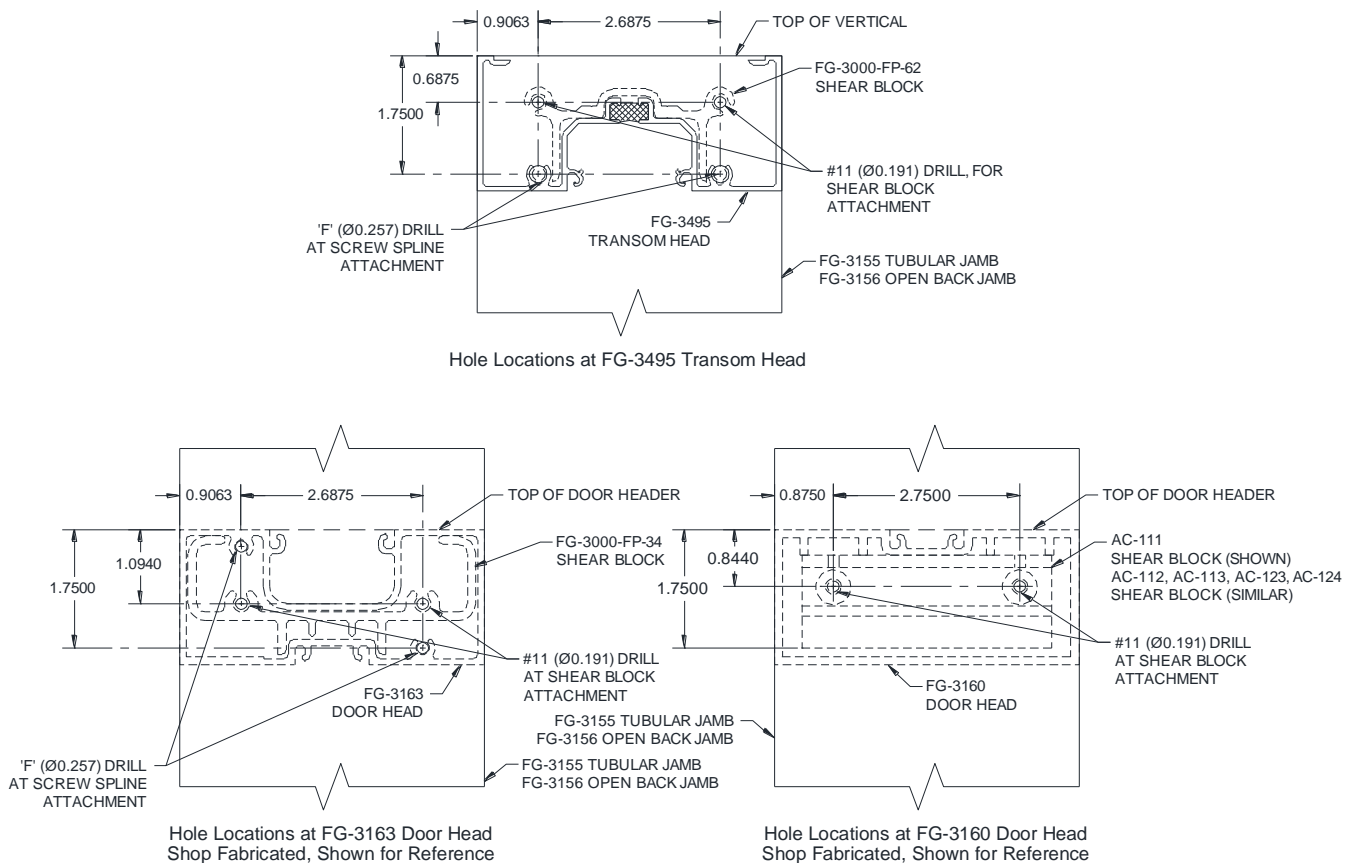

Figure 8: Fabrication for ArmorDefend™ Framing at Transom Head and Door Head
2.1.2 Prep Door Jamb for the Door Head and/or Transom Head Horizontal. This should be made using either **DJ-8** drill fixture or EZ-Punch die set for the FG-3000 framing. Reference *Figure 8* for visual detail.